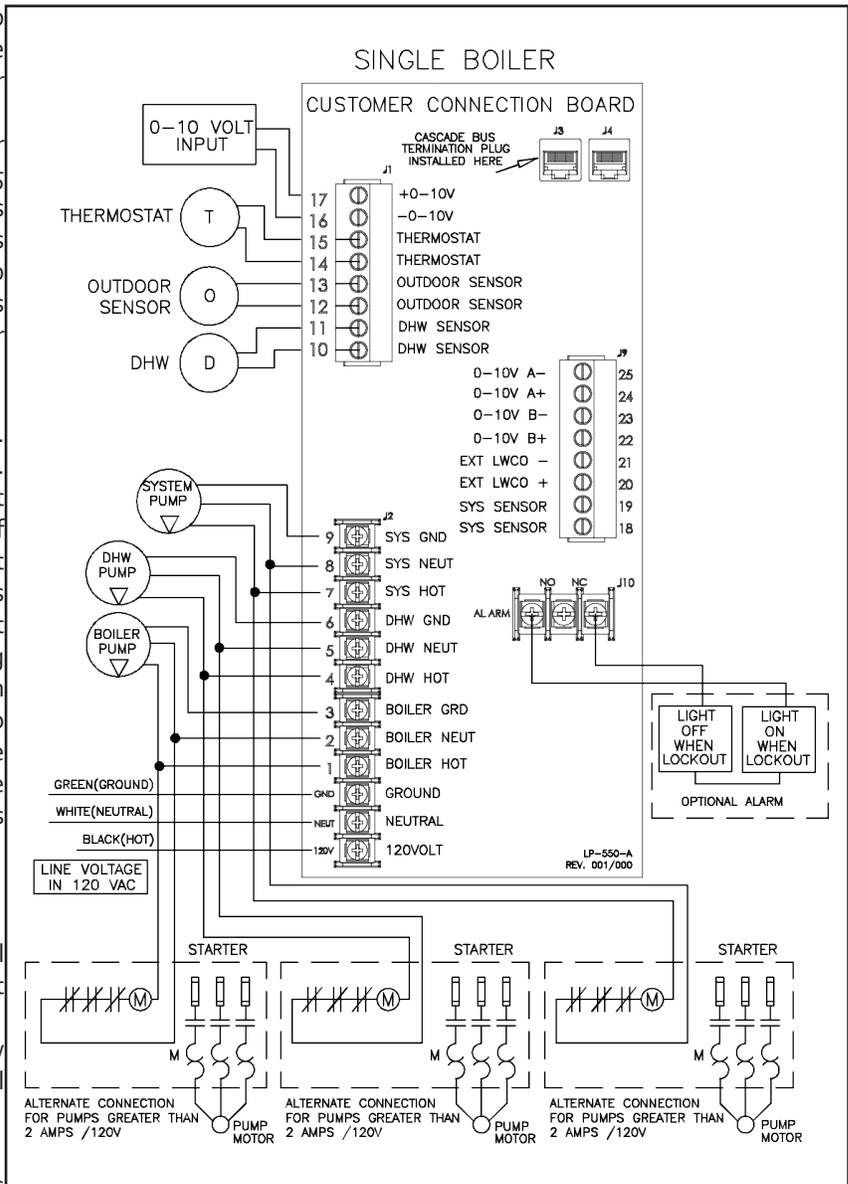

Figure 22 - Control Wiring
NOTE: A termination plug is included in the CAT 3 / CAT 5 Bus Connection Point, labeled J₃ in Figure 22. DO NOT REMOVE THIS PLUG! Doing so will affect boiler operation and void warranty.
1. Connect the incoming power wiring to the line voltage terminal strip in the electrical junction box at terminals 120V, NEUT, and GND (shown in Figure 22).
The control includes a dry contact alarm output. This is an SPDT circuit, rated at 5 amps at 120 volts. This contact can be used to activate an alarm light or bell or notify a building management system if the boiler goes into a lockout condition. The circuit between the ALARM COM and NC terminals is closed during normal operation and the circuit between ALARM COM and NO is open during normal operation. The connections depicted in Figure 22 show two 120 volt lights connected to the alarm terminals. One light will be on when the boiler is in normal mode and the other light will be on when the boiler is in lockout mode. HTP offers an Alarm System Kit (part # 7350P-602).
1. All low voltage cables should enter the electrical junction box through the provided knock out holes as shown in Figure 22.
1. Connect the room thermostat to the terminals marked 14 and 15 (THERMOSTAT) in the electrical junction box (shown in Figure 22). Alternately, any dry contact closure across these terminals will cause the boiler to run. Caution should be taken to ensure neither of the terminals becomes connected to ground.
1. If using an outdoor sensor, connect wires for sensor to the terminals marked 12 and 13 (OUTDOOR SEN, shown in Figure 22) in the electrical junction box. Caution should be used to ensure neither of these terminals becomes connected to ground.
2. Connect the indirect tank sensor (7250P-325) to the terminals marked 10 and 11 (DHW SENSOR, shown in Figure 22) in the electrical junction box.
2. Connect a building management system or other auxiliary control signal to the terminals marked 17, 0-10 VOLT + and 16, 0-10 VOLT - in the electrical junction box (shown in Figure 22). Caution should be used to ensure that the 0-10 VOLT + connection does not become connected to ground.
1. A Cascade Bus Termination Plug has been installed on the customer connection board of this boiler. The purpose of this plug is to stabilize communication between multiple boilers and reduce electrical "noise". See Figure 22 for Cascade Bus Termination Plug installation detail.
NOTE: It is important that the termination plug in multiple boilers (cascaded units) be installed as depicted in Figure 22. Leave the plug installed in the J₃ port on the Master boiler. Remove the plug on intermediate Follower boilers. Move the plug to the J₄ port on the final Follower boiler.